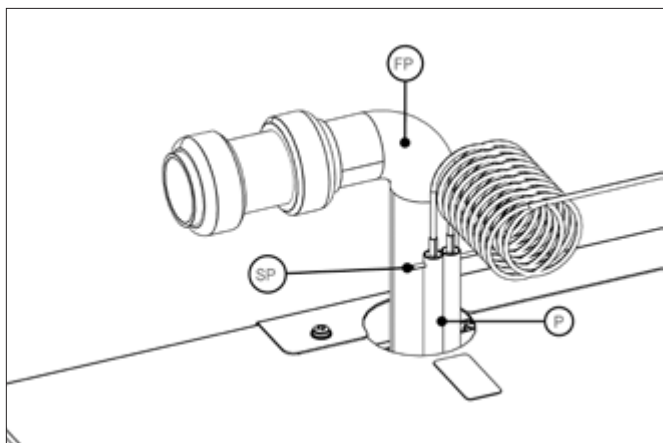

Figure 5-6: 36/46 model - dual stat phials fitted in pockets
3. Secure both phials in place by fitting the split pin provided through the small holes at the top of the phial pockets. Refer to Figure 5-6.